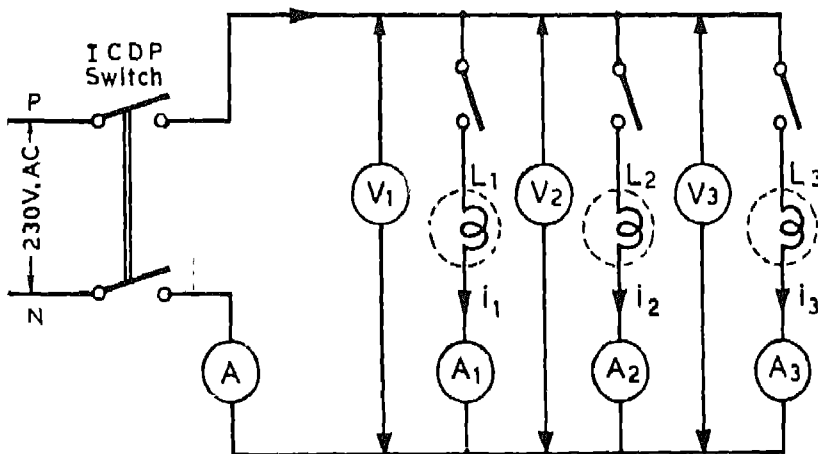

Fig 12.1 Measurement of Parallel Resistance (Lamps)
- (i) Connect lamps in parallel as shown in Fig 12.1 through their individual switches and ammeters. Switch on the mains and individual switches one by one. Record ammeter readings of each branch and of the whole circuit. Record the circuit voltage.